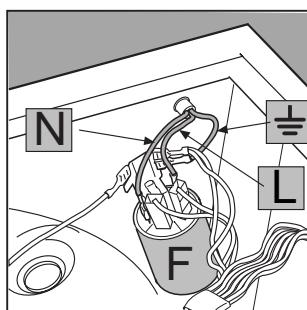

Fig. 14
3. Disconnect the wires from the radio interference suppressor F [fig. 14] noting as to their position (**Blue=N** wire; **Brown=L** wire) leaving the earth wire until last \pm .